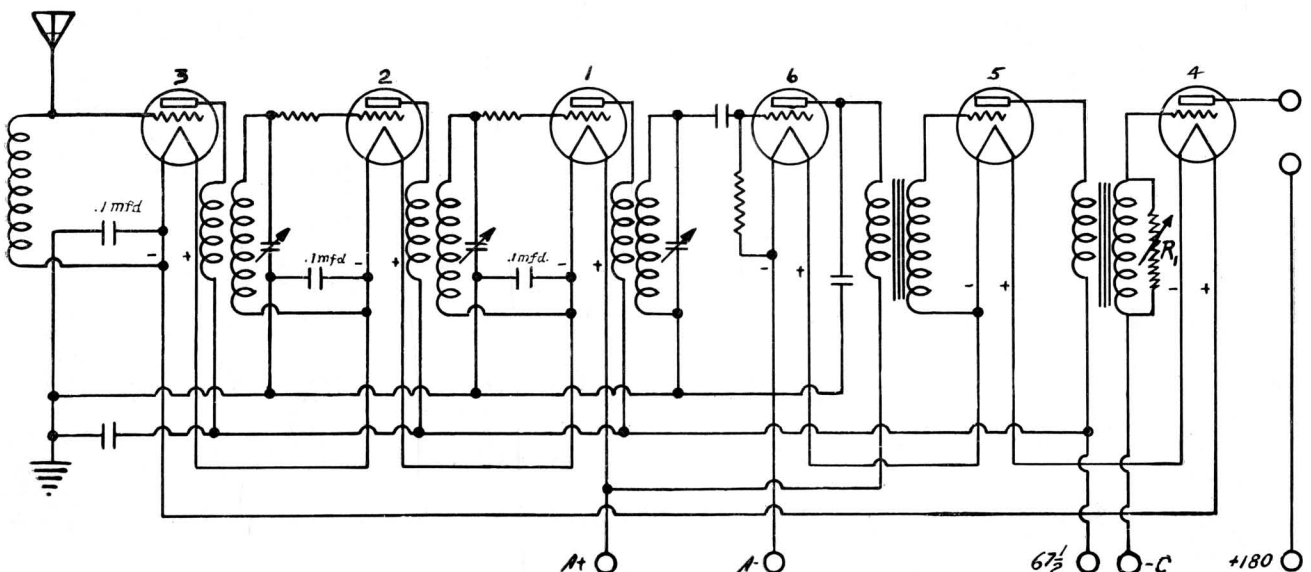

FIG. 4
with an A-B-C power pack using the BA tube. For instance, using only a pair of pliers, a screw driver and a soldering iron it takes only one hour to rewire the Atwater Kent model (30) receiver for series filament operation, as shown in Figure 4.
The Raytheon Laboratories have rewired practically all the well known radio receivers for operation with the BA power pack. See Figure 4 for the Atwater Kent Model 30. A data sheet has been prepared for each receiver giving a simple wiring diagram. You are urged to write the Technical Service Department at once for your copy, telling them specifically the name and model of the set you wish to rewire.